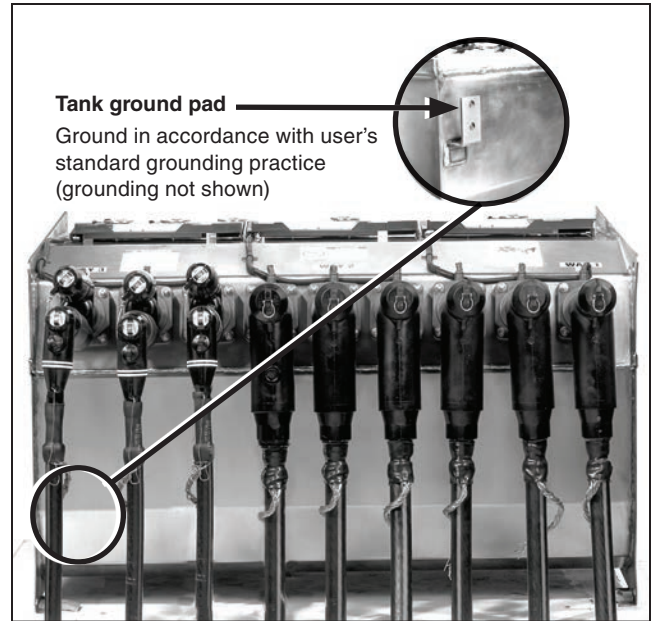
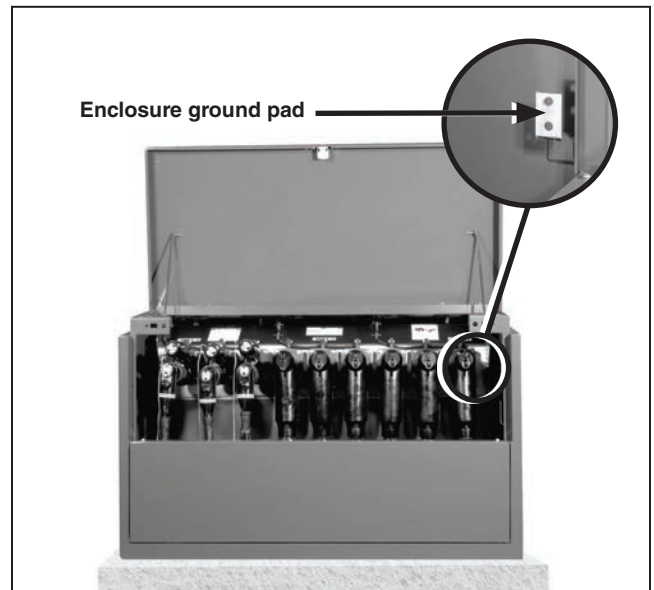

Figure 15. The Vista switchgear tank ground pad (grounding not shown).
Figure 16. The pad-mounted enclosure ground pad.
- STEP 2.** Connect the ground pad of the tank and the ground pad inside the enclosure to the system ground facility in accordance with the user's standard grounding practice. See Figure 15 and Figure 16.